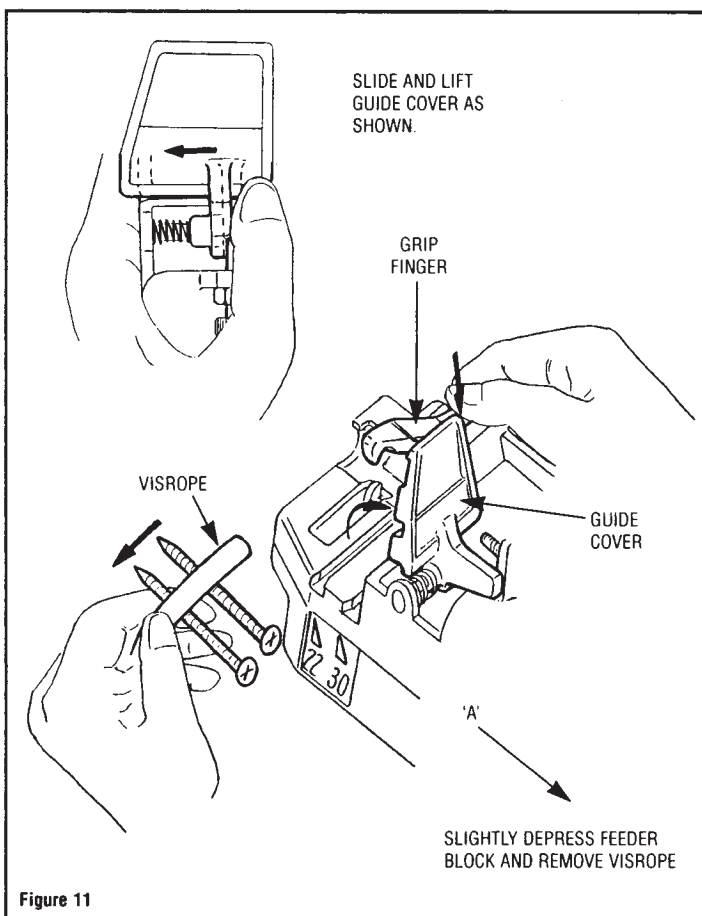

Figure 11
**(f) Unloading Visrope** - To remove the VISROPE, shift the guide cover to the left and tilt it upwards (see fig. 11) Push the feeder block in the 'A' direction, press the grip finger downwards and pull the VISROPE to the left to remove the screws.